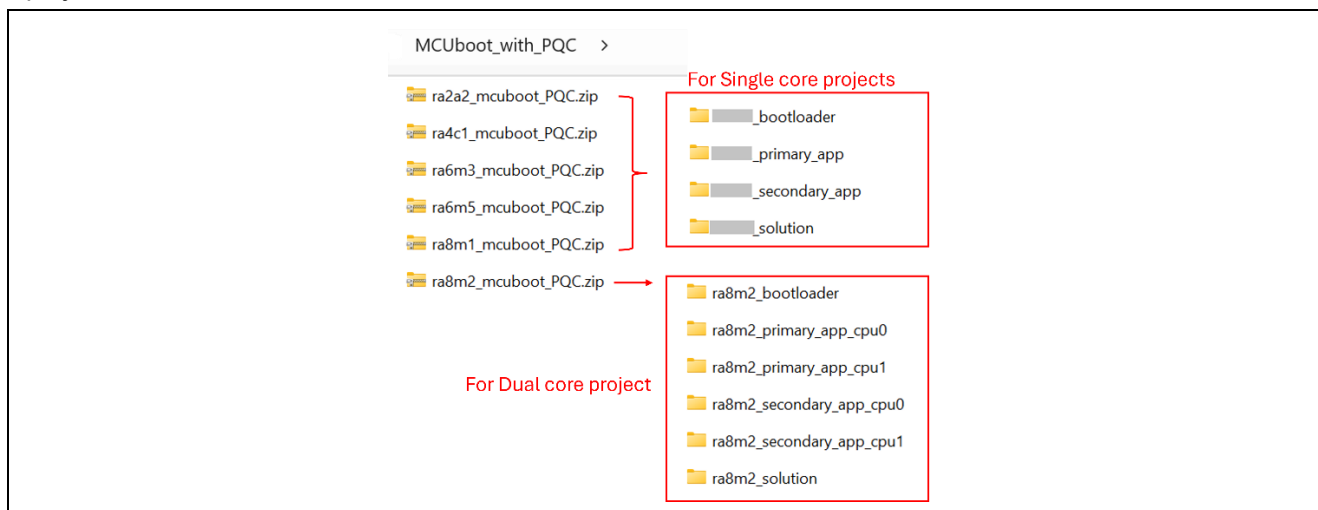

Figure 3. Example Projects with Bootloader Support
- From the example project sets (refer to **Figure 3**) choose the set of projects you would like to do first.